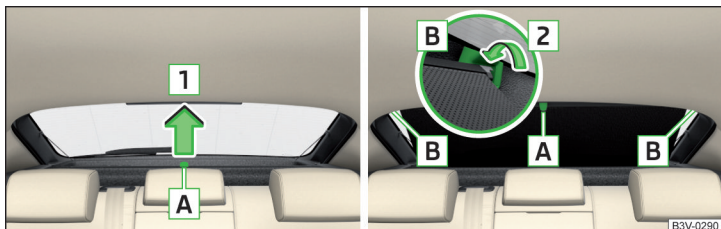

Fig. 77 Sun screen
- To **roll down**, pull the sunshade by the handle **A** in direction of arrow **1** and suspend in the magnetic holder **B** in the direction of arrow **2** » Fig. 77.